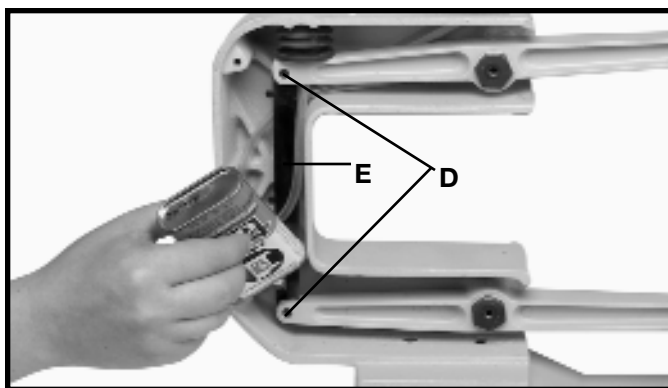

Fig. 41
4. Lubricate the shafts of two special screws (D) Fig. 41, with a few drops of light machine oil in the areas where they pass through the connecting link (E). **NOTE: DO NOT REMOVE SPECIAL SCREWS TO LUBRICATE.**